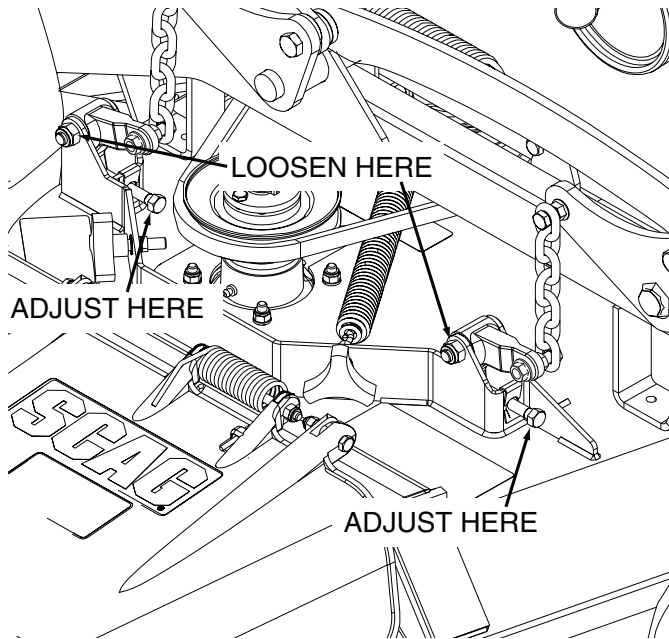

Figure 6-7. Right Side Cutter Deck Adjustment
- A. Loosen the elastic stop nuts securing the deck level links on the front and rear of the cutter deck. See Figure 6-7.